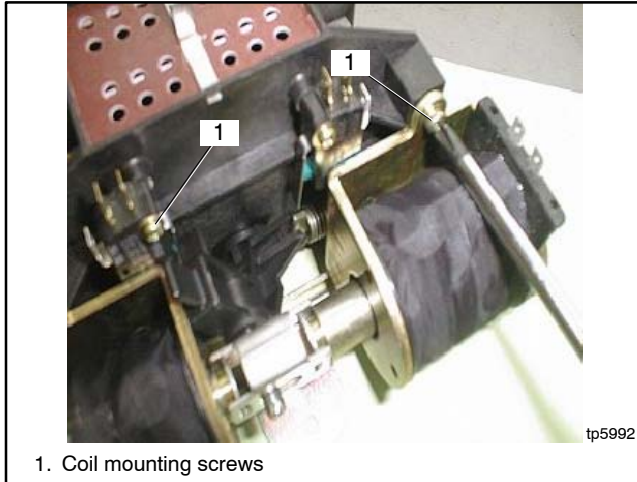

Figure 7-16 Loosen Coil Mounting Screws
1. Loosen the four coil mounting screws (two for each coil) by two full rotations. Do not remove the coils. See Figure 7-16.